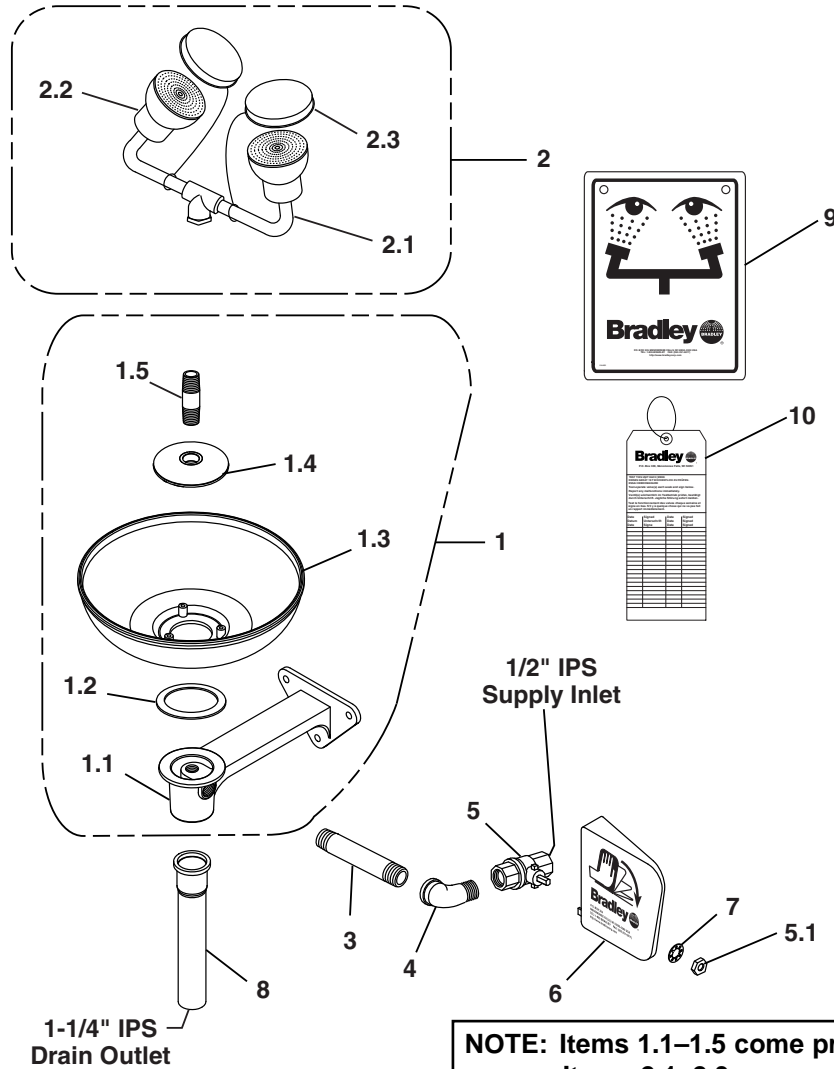

Figure 2a
1. Assemble eyewash components as shown in Figure 2a on page 4 or Figure 2b on page 5.